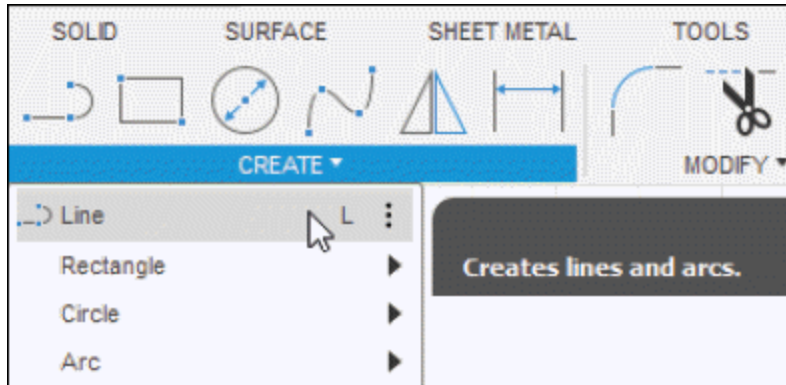

Figure-4. Line tool
- Click on **Line** tool of **CREATE** drop-down from **Toolbar**; refer to Figure-4. You can also press **L** key to select the **Line** tool. You will be asked to specify start point of the line.